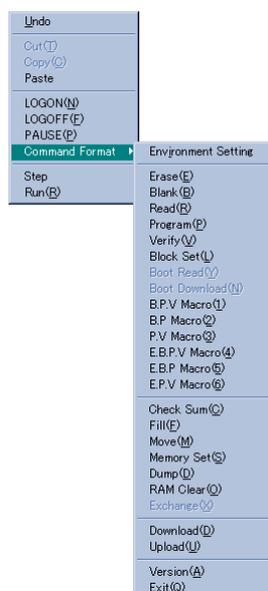

Fig. 2.10: Short-Cut Menu
- 1) Move the mouse cursor into the editor field and display the shortcut menu by clicking the right button. The shortcut menu is shown in Fig. 2.10.